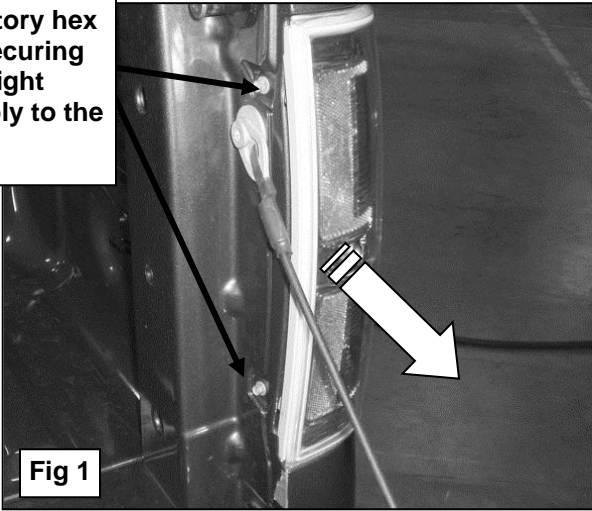

Fig 1
3. Select the Passenger Side Taillight Guard and (1) Support Bracket to start the installation on the passenger side of the vehicle. Open the tail gate and remove the hex bolts holding the taillight assembly in place, **(Figure 1)**.